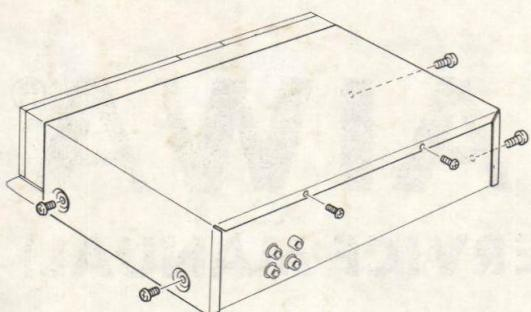

Fig. 1
1) Remove 6 screws. (See figure 1)